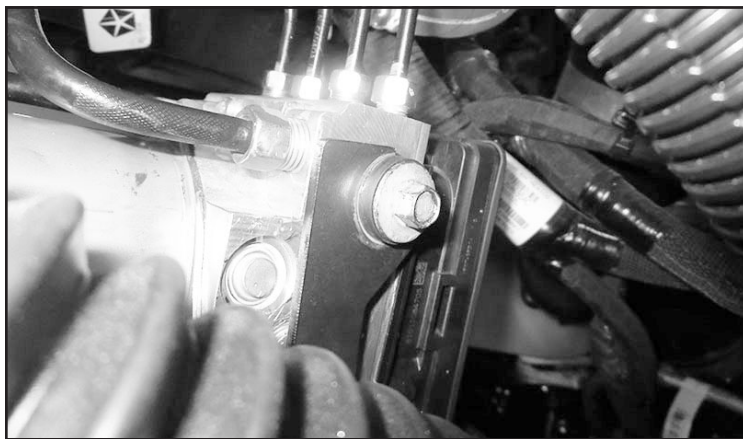

FIGURE 6 - STEP 12
12. Locate the Electronic Stability Control unit on top of the driver side upper coil spring mount. Remove and save the factory bolt on the back side of the unit. **SEE FIGURE 6**